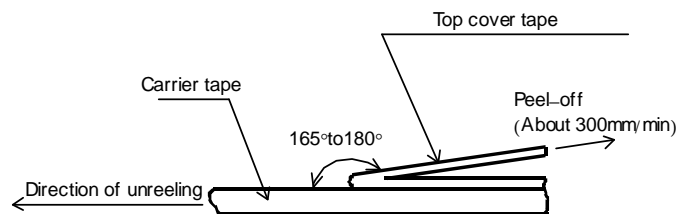
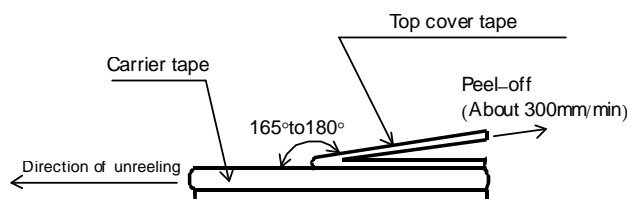
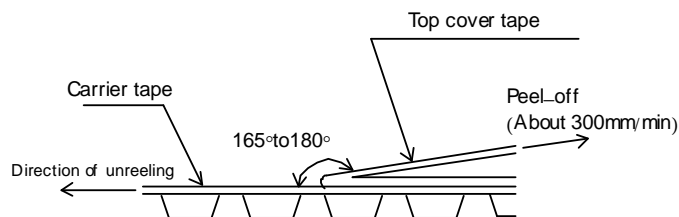

Figure-10
Figure-11
Figure-12
- 5). The peel strength of the top cover tape shall be with in 0.1N to 0.5N on the test method as shown in the following RMC1/32, 1/20: Figure-10, RMC1/16S, 1/16, 1/10, 1/8: Figure-11, RMC1/4, 1/2, 1: Figure-12.